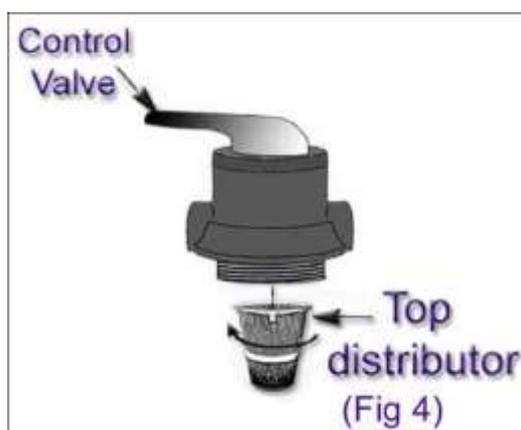

Figure 4
- Snap and twist top on the distributor to the bottom of control valve. *Fig 4*